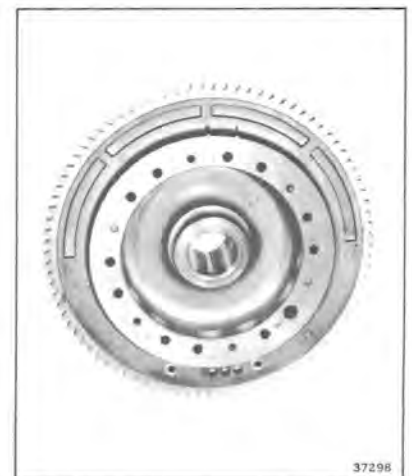

Figure 7-27
5. Replace flywheel and primary drive. See Section 10. Clean flywheel of dirt or metal filings which may have accumulated on magnets before installing. See Figure 7-27.